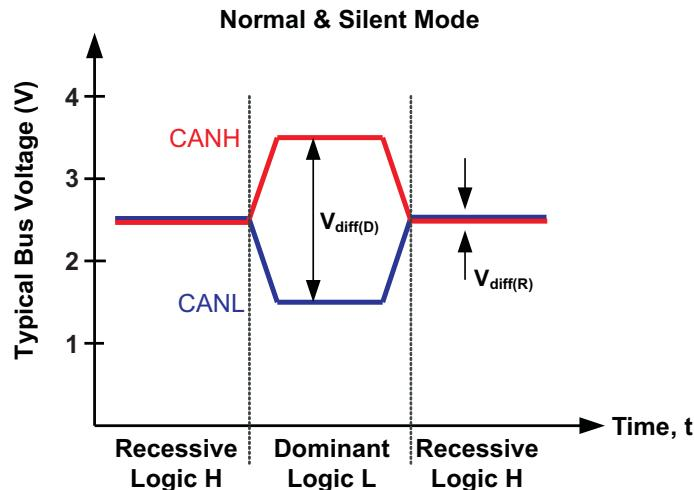
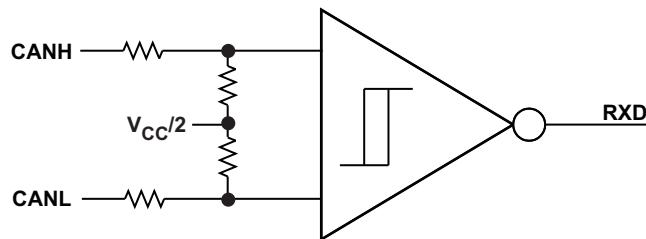

Figure 15. Bus States (Physical Bit Representation)
Figure 16. Simplified Recessive Common Mode Bias and Receiver
(1) H = high level, L = low level, X = irrelevant, Z = common mode (recessive) bias to $V_{CC} / 2$. See Figure 15 and Figure 16 for bus state and common mode bias information.
(2) Devices have an internal pulldown to GND on S pin. If S pin is open the pin will be pulled low and the device will be in normal mode.
(3) Devices have an internal pullup to V_{CC} on TXD pin. If the TXD pin is open the pin will be pulled high and the transmitter will remain in recessive (nondriven) state.
The CAN bus has two states during powered operation of the device: *dominant* and *recessive*. A dominant bus state is when the bus is driven differentially, corresponding to a logic low on the TXD and RXD pin. A recessive bus state is when the bus is biased to $V_{CC}/2$ via the high-resistance internal input resistors R_{IN} of the receiver, corresponding to a logic high on the TXD and RXD pins. See Figure 15 and Figure 16.